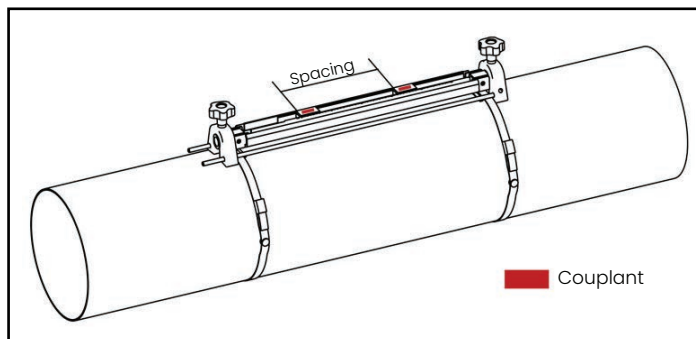

Figure 13: Set transducer spacing and apply couplant
- b. Set the transducers to the spacing calculated by the meter. If you are using solid couplant, apply it to both transducer faces. Then, rotate the transducers back onto the rail (see figure 13 below).